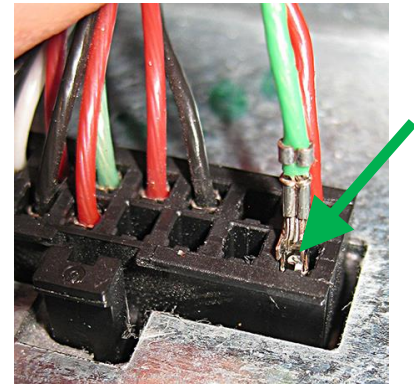

Figure 48
55. Insert the green wire into the far right front position (pin 16) in front of the red wire inserted in step 54. (see Figure 48).